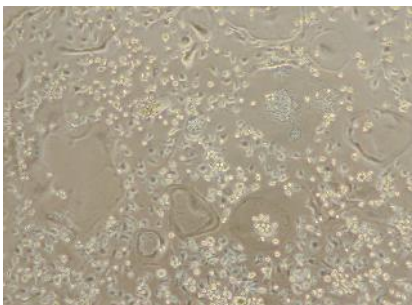

Figure 1
9. Change medium every day. Cells will begin to fuse and form osteoclasts around day 4 (fig 1). Feeding the cells with fresh medium on a frequent basis will maintain the osteoclasts.